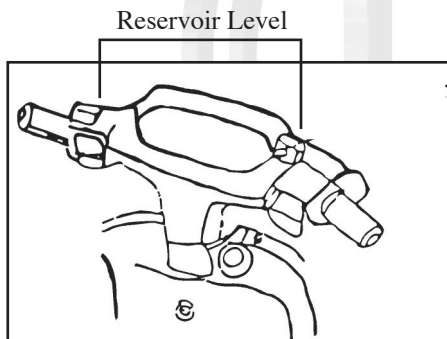

Fig. 1
- Check the fluid level by looking at the reservoir. *See Fig. 1.* The fluid level must be between the two lines. If it is below the lower line, check the brake line and cylinder for a possible leak.